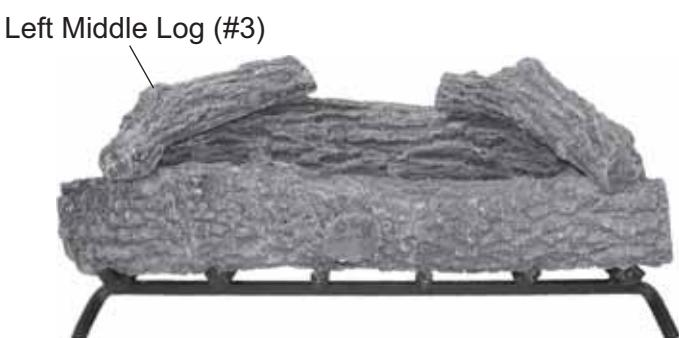

Figure 62 - Positioning Left Middle Log (#3)
4. Position Right/Left Middle Log #3 on top left of Log #1 and Log #2. Make sure back of Log #3 fits in left groove in top of Log #2. See Figure 62.